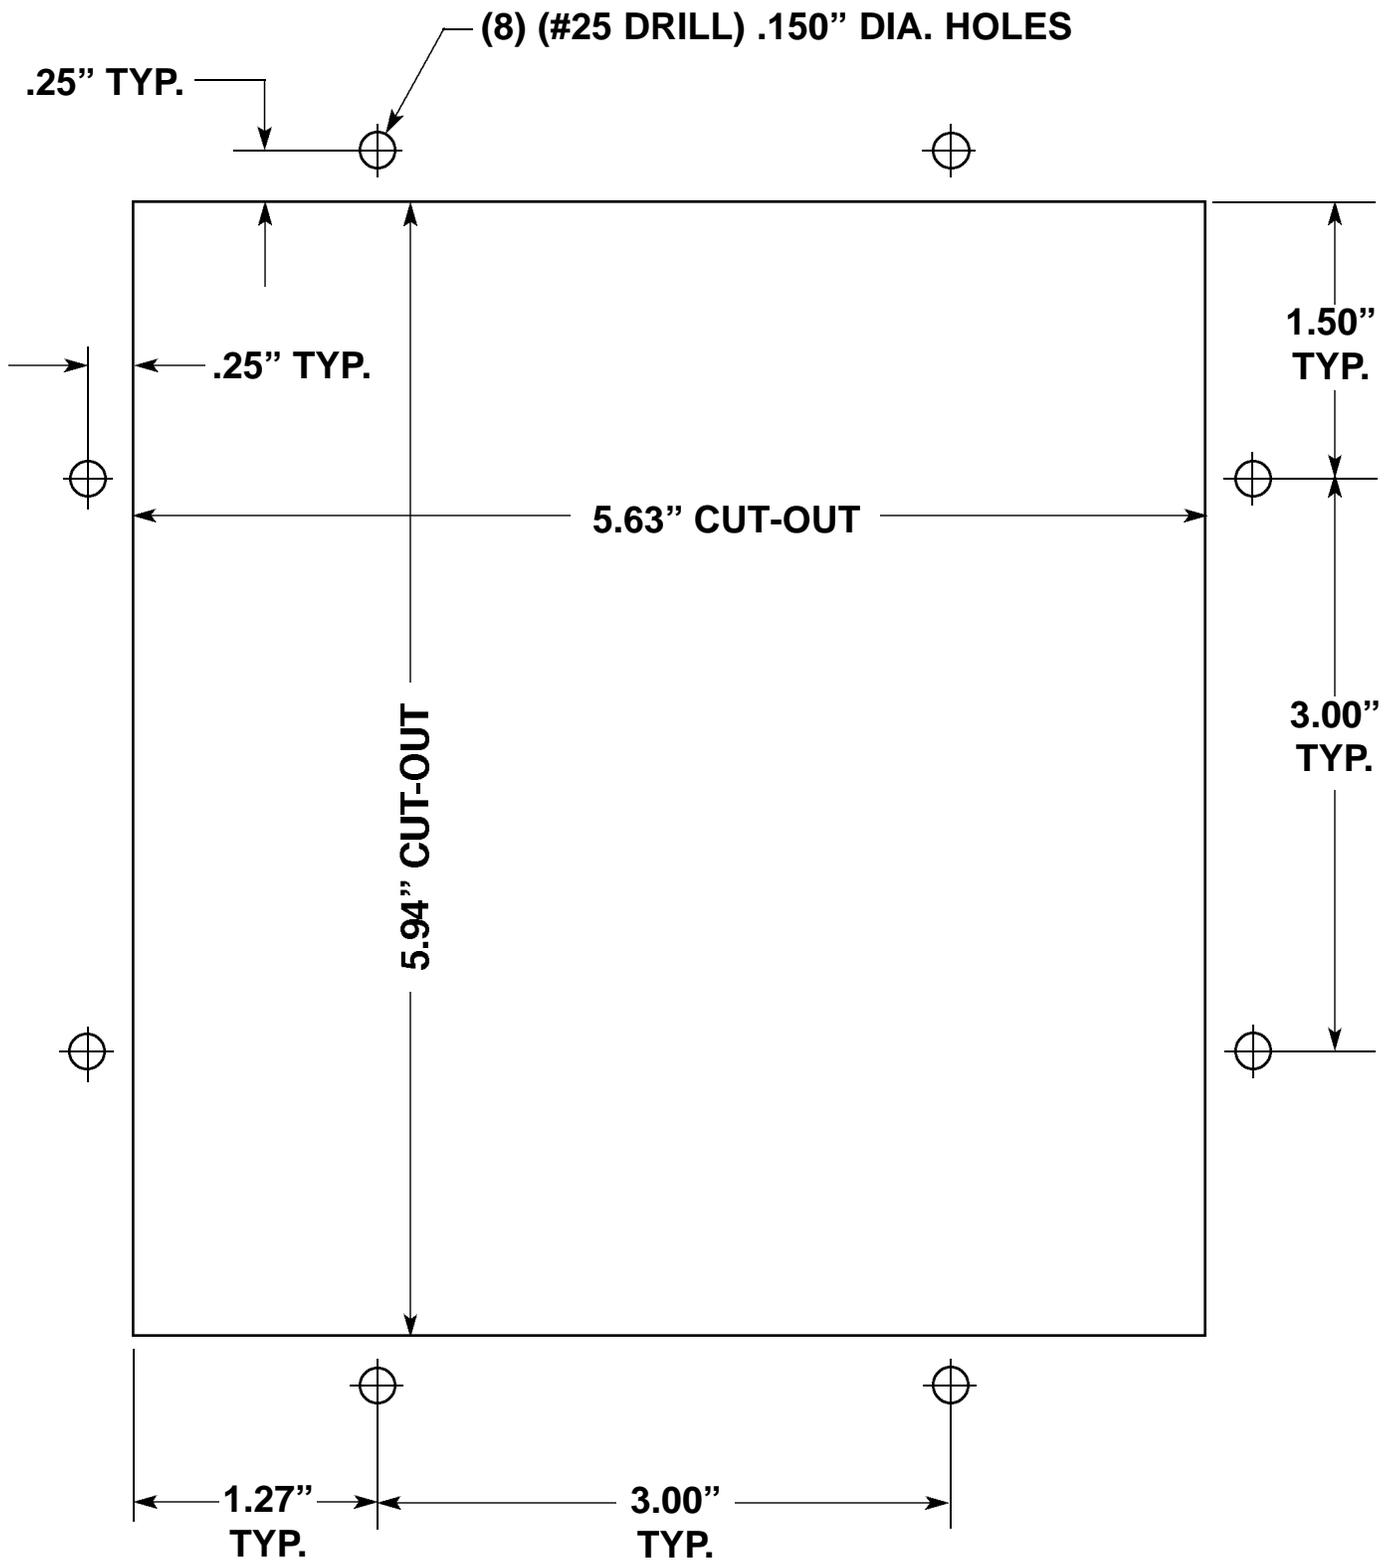
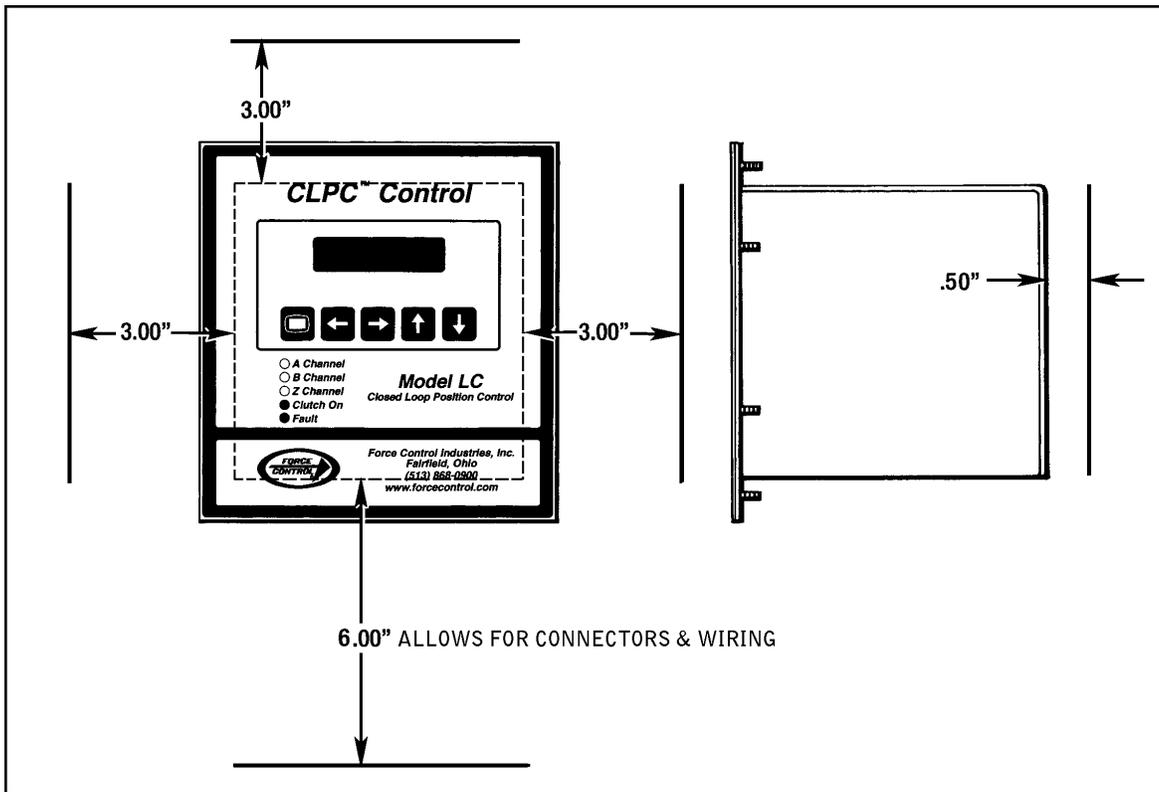

Figure 3.2 - CLPC-LC Mounting Template
Figure 3.3 - Minimum Mounting Clearances
6. See *Figure 3.2* for mounting template and *Figure 3.3* for recommended minimum clearances for the control.